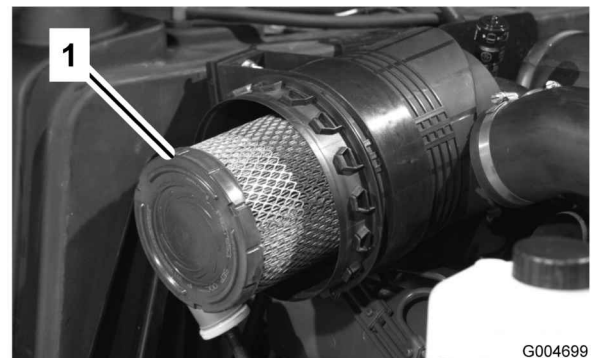

Figure 48
2. Before removing the filter (Figure 48), use low pressure air (40 psi, clean and dry) to help remove large accumulations of debris packed between outside of primary filter and the canister. Avoid using high pressure air which could force dirt through the filter into the intake area. This cleaning process prevents debris from migrating into the intake when the primary filter is removed.